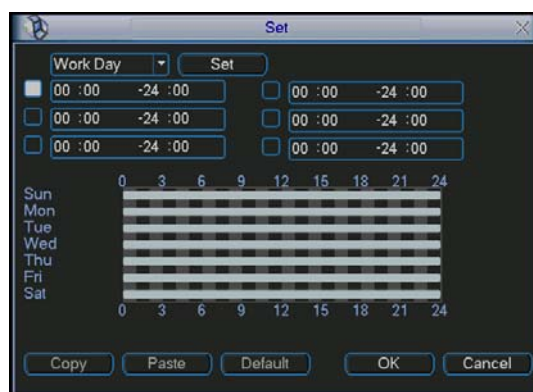

Figure 4-23
- **Period:** Click set button, you can see an interface is shown as in Figure 4-23. Here you can set for business day and non-business day. In Figure 4-23, click set